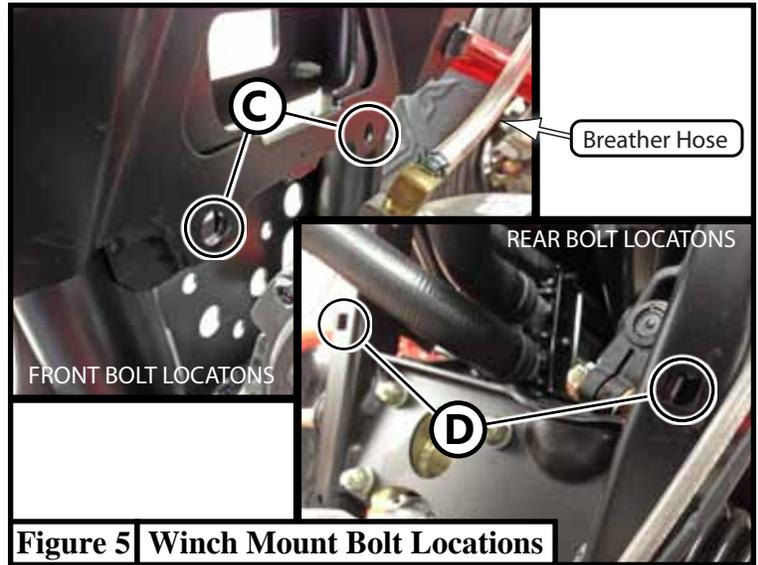

Figure 5 Winch Mount Bolt Locations
5. Place winch mount (1) into position from the drivers side of the machine in order to avoid the breather hose for the front differential. Align the winch mount (1) with the bolt holes (C&D) as shown in **Figure 5**.